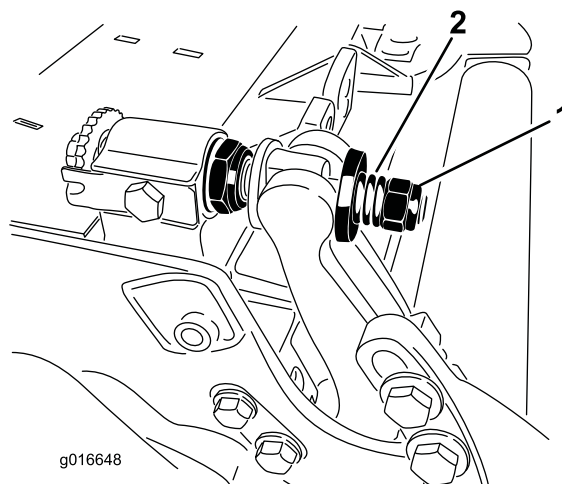

Figure 36
3. Tighten spring tension nut until spring is collapsed, then back off 1/2 turn (Figure 36).
10. Tighten the nut on each bedbar adjuster assembly until the compression spring is fully compressed, then loosen nut 1/2 turn (Figure 36).